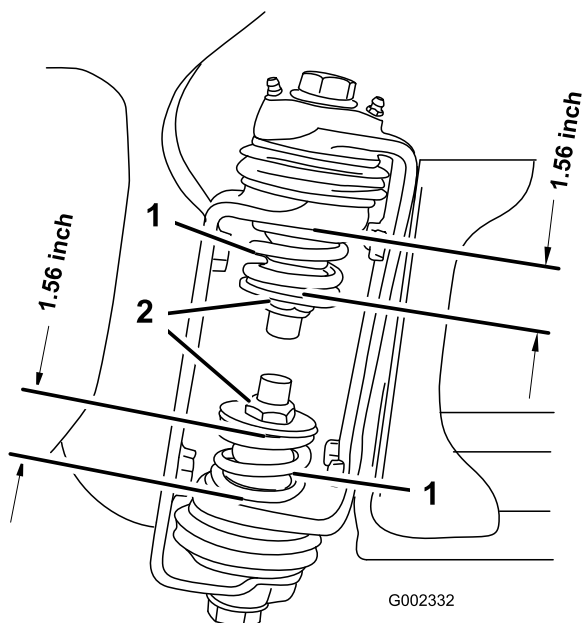

Figure 8
3. At the boom hinge, measure the compression of the upper and lower springs while the booms are in their extended position (Figure 8).